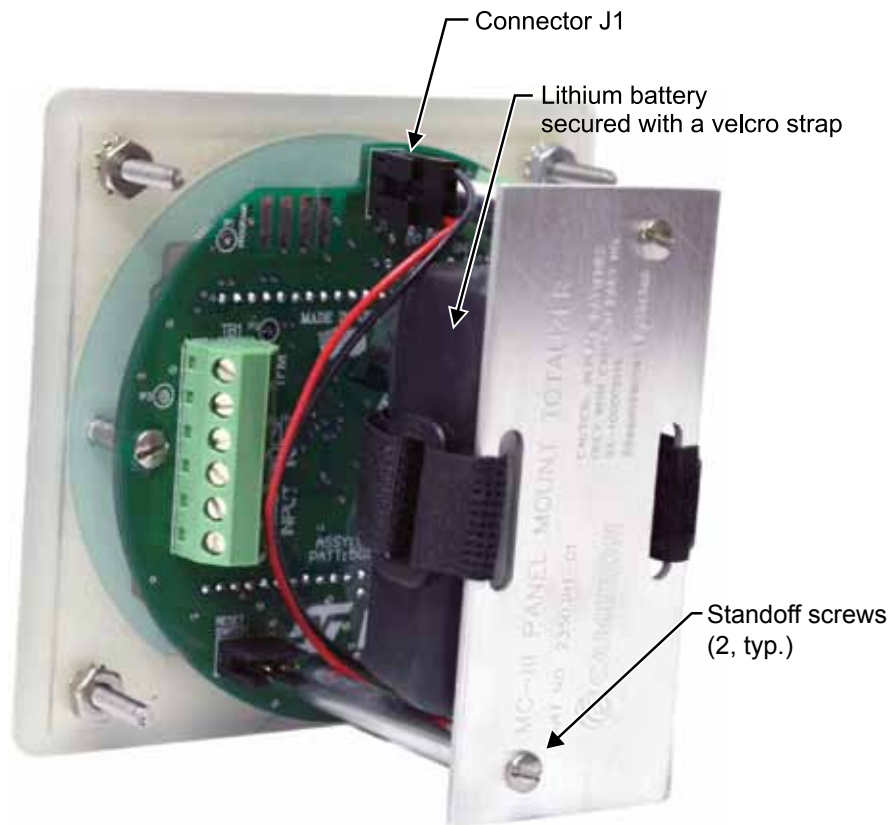

Figure 6.1—Lithium battery replacement
2. Using a flathead screwdriver, remove the two standoff screws connecting the metal plate and battery assembly to the circuit board. Loosen the velcro strap that secures the battery to the metal plate and remove the battery (Figure 6.1, page 88). Send the depleted battery to a fully permitted Treatment, Storage and Disposal Facility (TSDF) or to a permitted recycling/reclamation facility, as required by federal regulations (see Appendix B).
3. Unplug the battery cable from connector J1 on the circuit assembly (Figure 6.1, page 88).